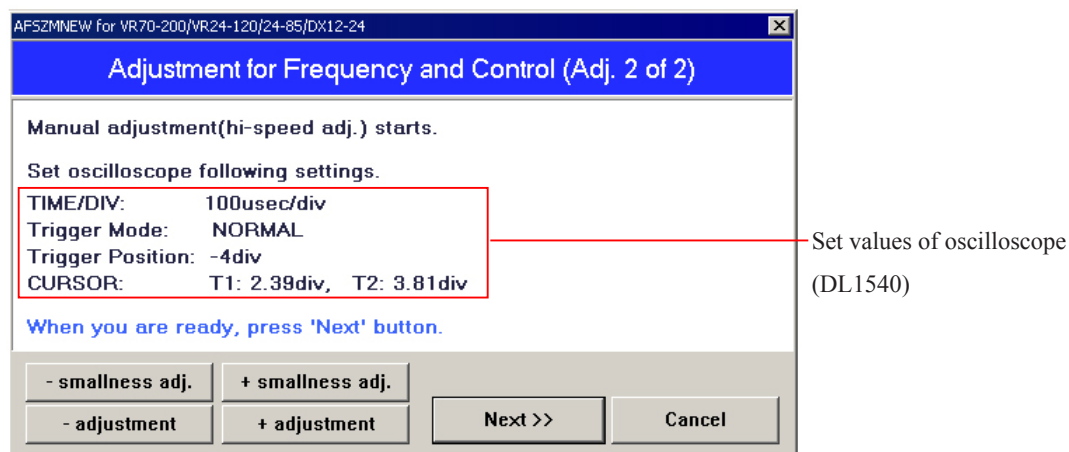

Fig.4
Make the high-speed adjustment of "Fig.4" by the same procedure as in the low-speed adjustment.
- "Fig.2" on Page L36-8 shows setting values for low-speed adjustment, while "Fig.4" on Page L36-9 shows those for high-speed adjustment.
- Because TIME/DIV, T1, T2, and other setting values are different between the low-speed adjustment and high-speed adjustment, check the values by referring to "Fig.2" on Page L36-8 and "Fig.4" on Page 36-9.